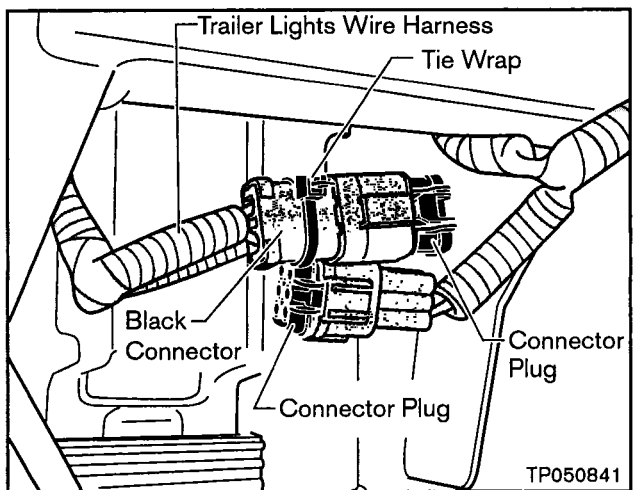

Figure B7
- a. Remove the Connector Plugs from the Trailer Lights Wire Harness (vehicle side). See Figure B7